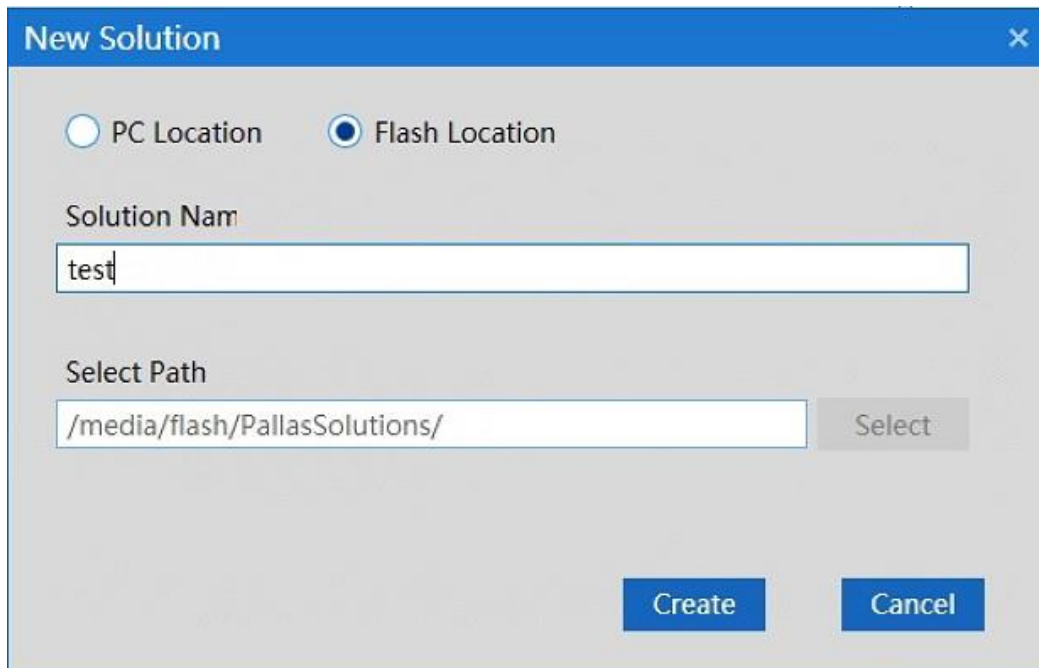

Figure 6-27 New Solution
Step 1 Right-click in the space below "Remote Location" and click "New Solution", as shown in Figure 6-27.